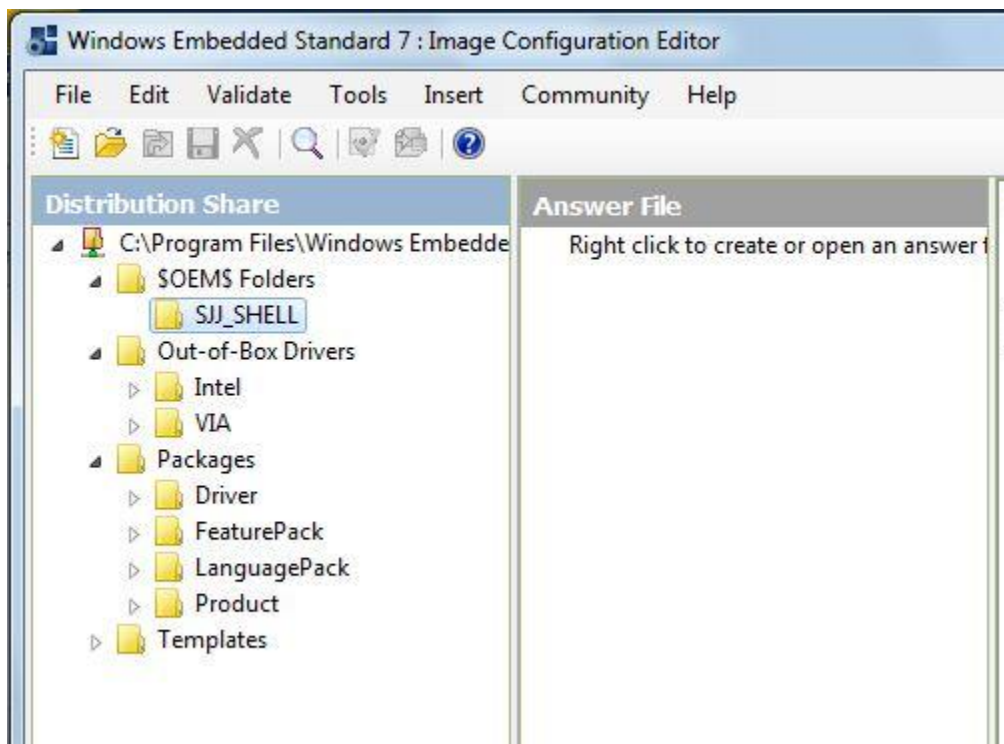

Figure 5-2 - SJJ Shell in Distribution Share
8. You should see the “SJJ_SHELL” folder under the “\$OEM\$ Folders”, Figure 5-2.